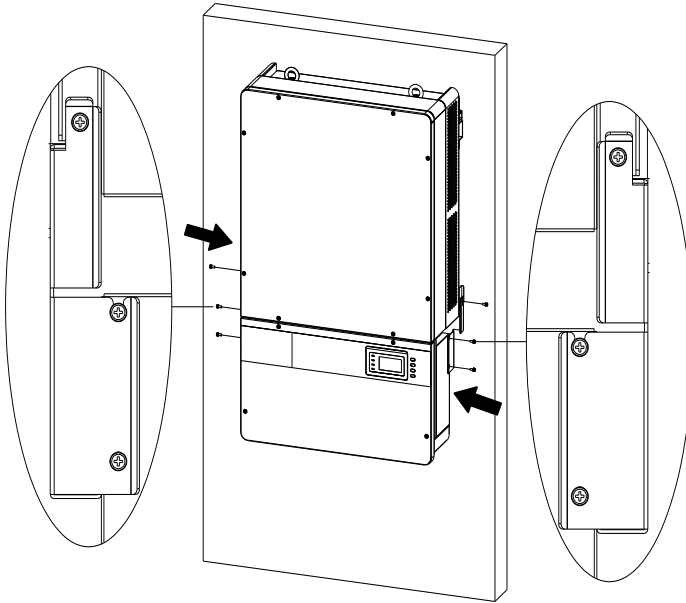

Figure 3-11 Fix the main housing and wiring box on the bracket
- (5) Attach the main housing and the wiring box to the mounting bracket with the **M5x10 bolts** (6 pcs). (see Figure 3-11)